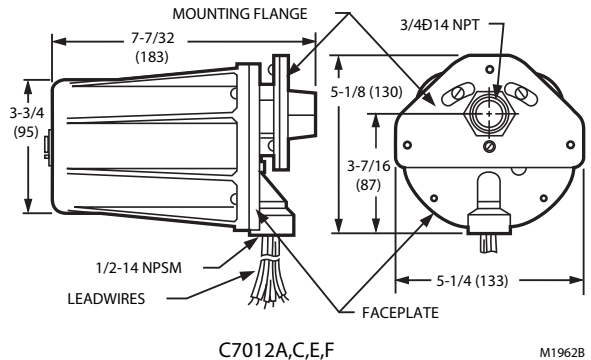

Fig. 1. Dimensions of C7012A,E, and G in in. (mm).
**Dimensions:** See Fig. 1 or 2.